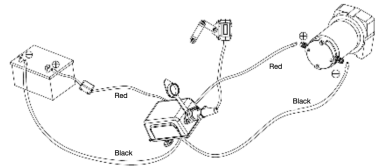

Fig. 2
1. Route the cables from the solenoid to the battery and from the solenoid to the winch (Fig. 2).